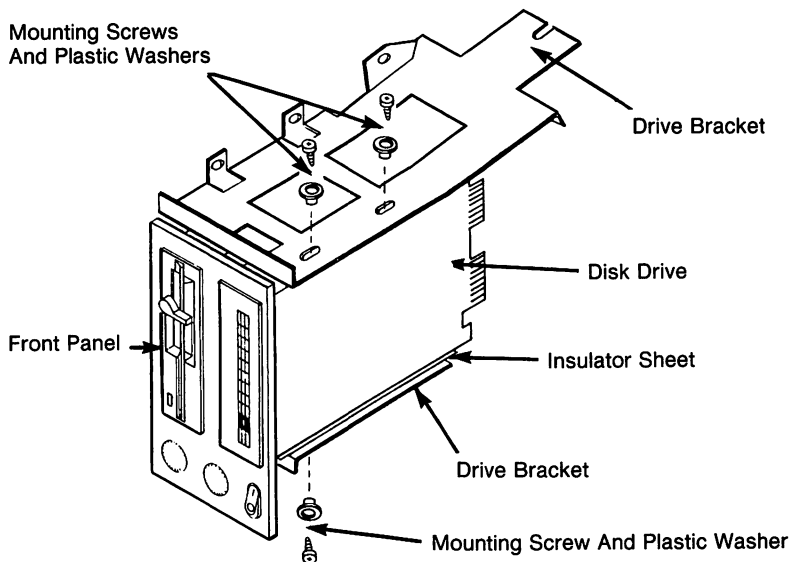

Figure 4-23 Securing fixed drive into PC
4. Pick-up the three screws and plastic washers. Place a plastic washer on each of the three screws with the largest diameter of the washer against the underside of the screw head. Refer to Figure 4-23 and insert two screw/washers into the two top mounting slots. Make sure that smallest diameter of plastic washers are seated into slots in drive bracket and that the screws are aligned to go through the holes in the insulator sheet and then into the threaded holes of the fixed drive. Snug, but do not yet fully tighten these two screws.
5. Also as indicated in Figure 4-23, insert the bottom screw and washer and snug but do not yet fully tighten, again making sure the washer seats in the drive bracket slot and the screw goes through the hole in the insulator.